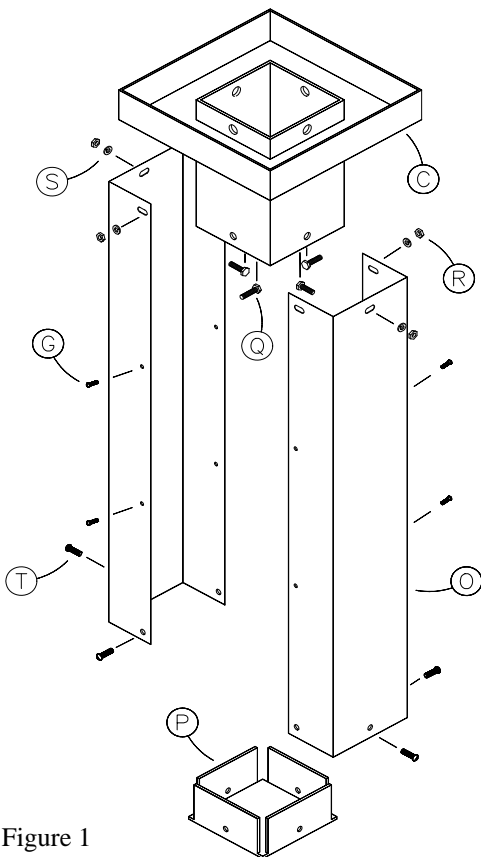
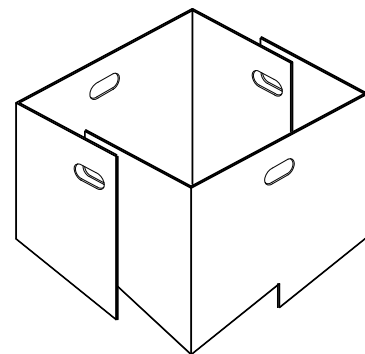

Figure 1
Figure 2
1. Assemble the *socket sides* (O) to the outside of the *socket top* (C) using *3/8" bolts* (Q), *lock washers* (R) and *nuts* (S) and to the outside of the *socket bottom* (P) using *5/16" truss head screw* (T). (See Figure 1) The *socket sides* should overlap. (See Figure 2) Use the *1/4" self tapping screws* (G) to connect the *socket sides*. (See Figure 1) Tape the side seams to prevent concrete from seeping into the socket. Leave the bottom edges open to allow drainage.